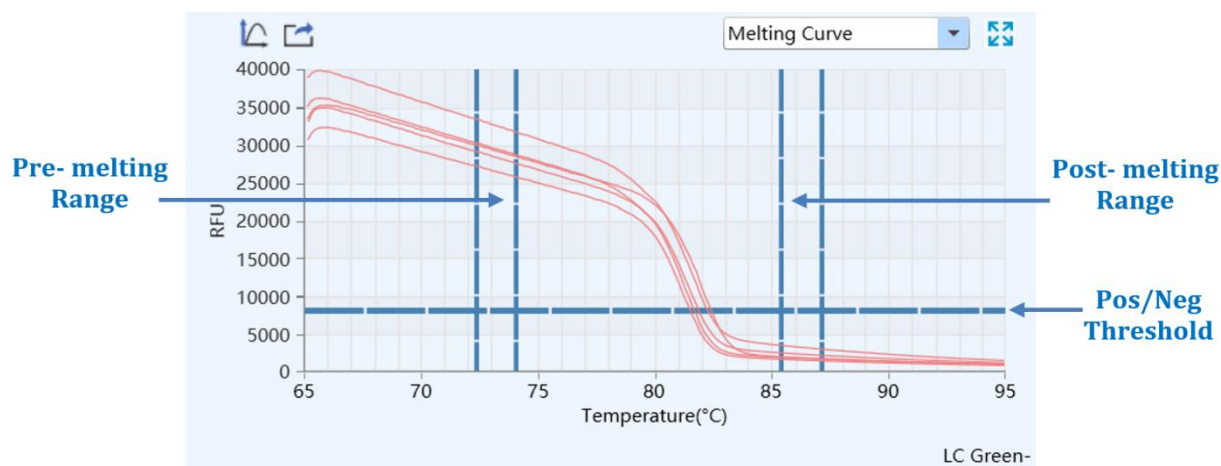

Figure D-14.1. HRM Analysis Interface – Melt Curve Functional Module
- I. **Melt Curve:** display the fluorescence intensity against the temperature, as shown in figure D-14.1.